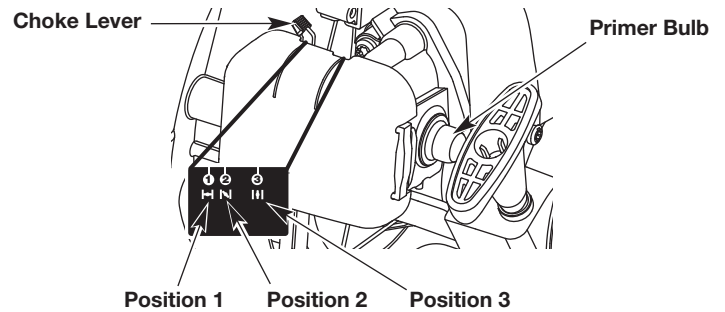

Fig. 8
3. Slowly press and release the primer bulb **10 times** (Fig. 8). If fuel cannot be seen in the primer bulb, press and release the primer bulb until fuel is visible.
4. Move the choke lever to **Position 1** (Fig. 8).
8. Move the choke lever to **Position 2** (Fig. 8).
11. Move the choke lever to **Position 3** (Fig. 8) and continue warming the engine for an additional 60 seconds. The unit may be used during this time.
IF... the engine hesitates, return the choke lever to **Position 2** (Fig. 8) and continue the warm-up.